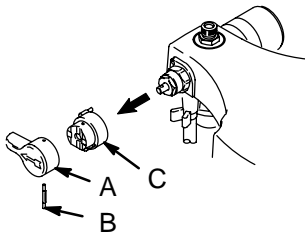

Fig. 2
4. Fig. 2. Remove knob (A) and base (C).